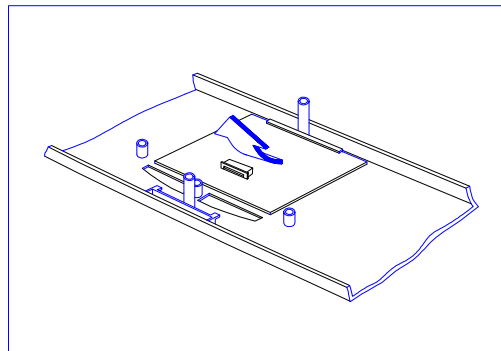

Figure 6-23 Removing/Replacing the Touchpad Assembly
3. Refer to Figure 6-23; remove the center screw and disconnect the Touchpad cable J1.